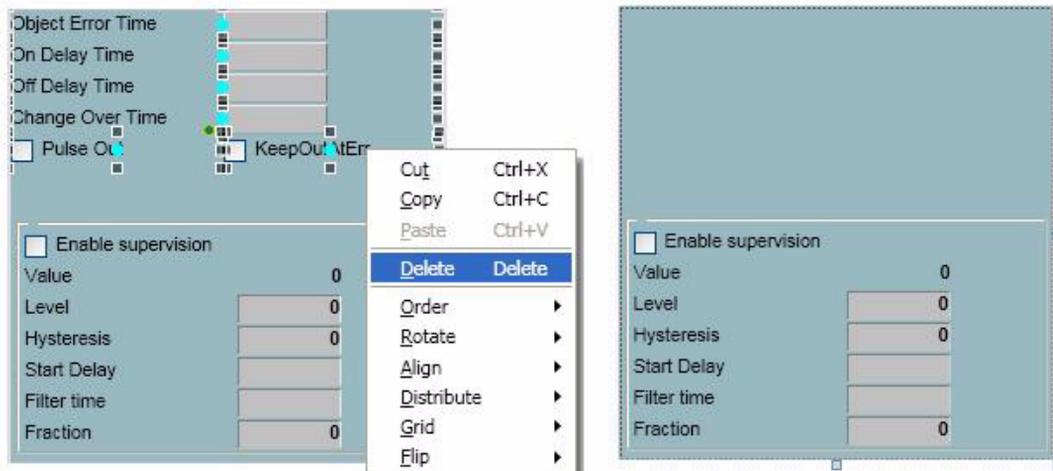

Figure 251. Deletion of a graphics element
6. To display graphics only for the level detection values, right click on the graphics to be removed (graphics other than those for level detection), and select **Delete**, as shown in Figure 251.